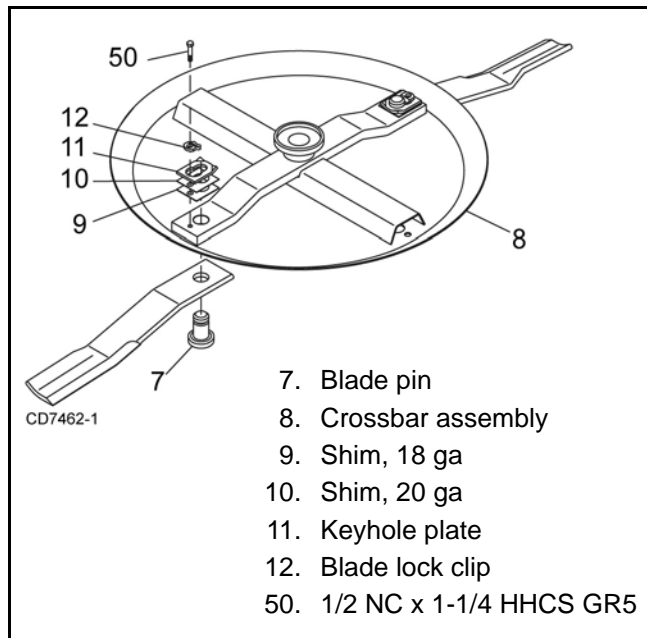

Figure 15. Blade Removal
2. Remove blades from crossbar as shown in Figure 15.